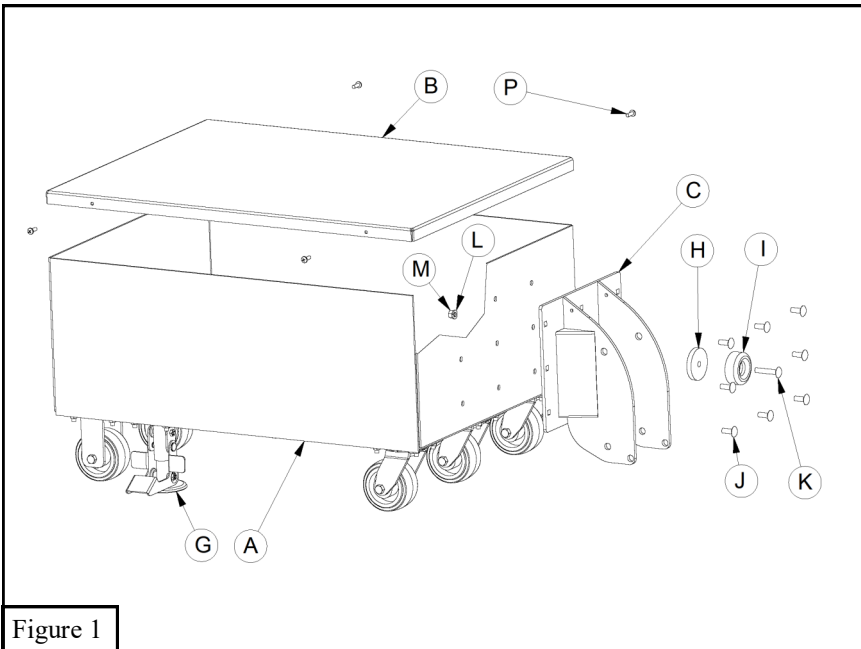

Figure 1
1. Remove *1/4" X 3/4" Screws (P)* and *Base Lid (B)*. Remove hardware package and *Pivot Bracket (C)* from inside of *Base (A)*. See Figure 1.
2. Attach *Pivot Bracket (C)* to the front of *Base (A)* using *3/8" X 1" Carriage Bolts (J)*, *3/8" Lock Washers (L)* and *3/8" Hex Nuts (M)*. Install *Bumper Spacer (H)* and *Bumper (I)* into the center hole of *Pivot Bracket (C)* using *3/8" X 2" Carriage Bolt (K)*, *3/8" Lock Washer (L)* and *3/8" Hex Nut (M)*. See Figure 1.
3. Load eighteen each *4" X 8" X 16" Solid Cap Blocks (R)* into *Base (A)* for ballast. Order 2 ea. BA833BLST or *4" X 8" X 16" Solid Cap Blocks* can be purchased at any local home improvement center or hardware store.
4. Replace *Base Lid (B)* onto *Base (A)* with *1/4" X 3/4" Screws (P)*. See Figure 1.